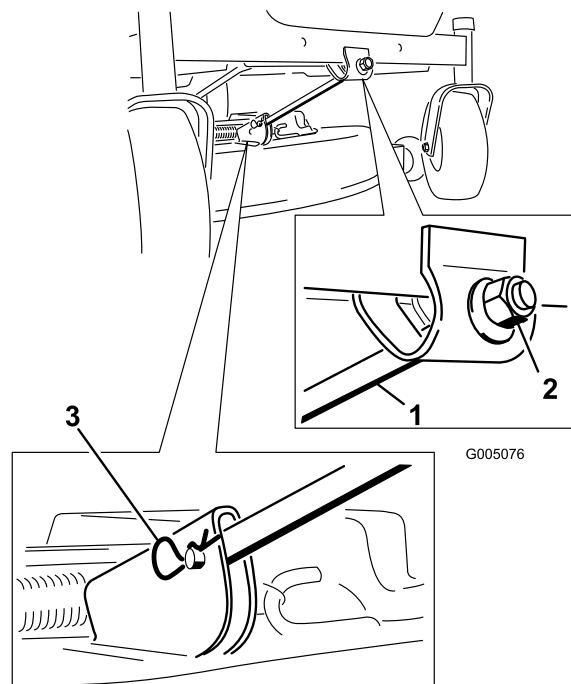

Figure 47
- Remove the hairpin cotter and clevis pin from the front support rod (Figure 47). Carefully lower the front of the mower deck to the ground.
6. Attach the front support rod to the mower deck with the clevis pin and hairpin cotter (Figure 47).